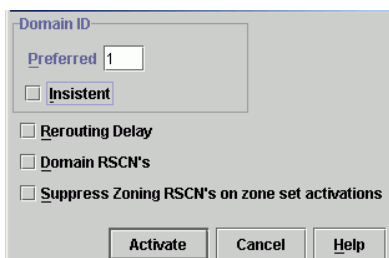

Figure 2-43 Configure Switch Parameters Dialog Box
2. At the *Hardware View* for the selected director, click *Configure* at top of the view. Select *Operating Parameters*, then select *Switch Parameters*. The *Configure Switch Parameters* dialog box displays (*Figure 2-43*).